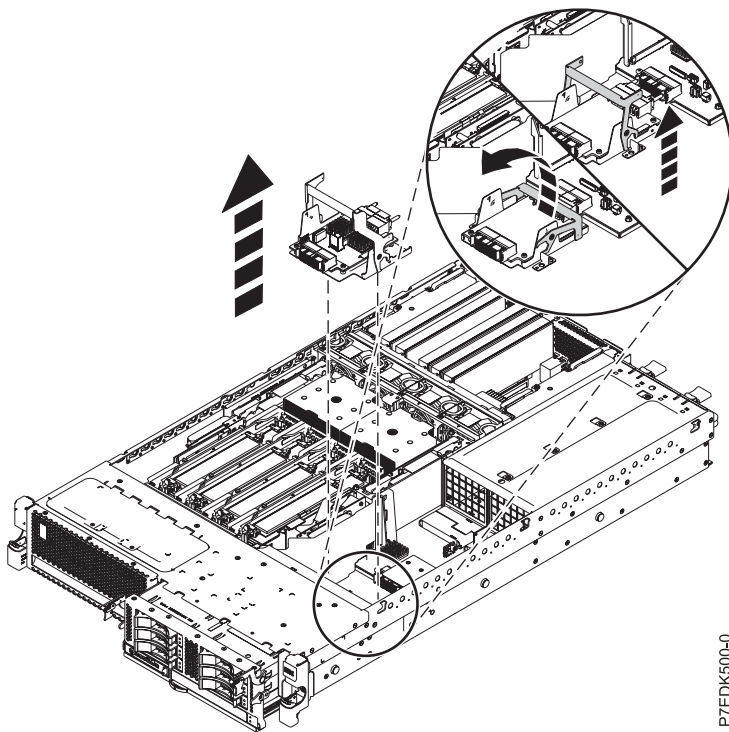

Figure 2. Removing a storage interposer card from a rack-mounted system
15. Pull the blue release latch to the open position, as shown in Figure 2.